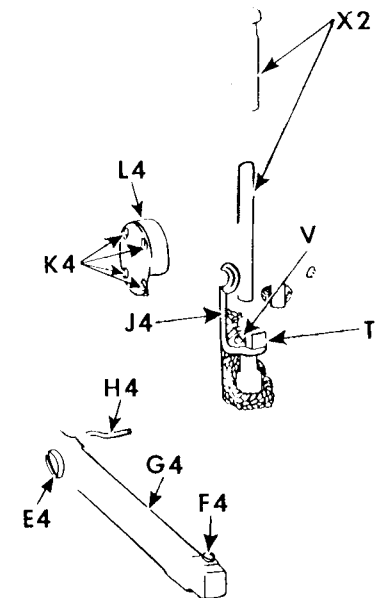

Fig. 58. Preparing to Remove Oil-Removing Wick
- Loosen presser foot lifting lever hinge screw E4, Fig. 58.
- Loosen presser foot lifting lever link stud screw F4, Fig. 58.
- Remove head end of presser foot lifting lever G4 with spring H4, Fig. 58 from the machine arm.
- Remove presser bar thumb screw X2, Fig. 58 with upper section of presser bar.
- Loosen screw V and remove guide bracket T, Fig. 58, as instructed on page 35.
- Remove presser bar lifting link J4, Fig. 58 with stud.
- Loosen four screws K4, Fig. 58 in the oil removing hinge plate and cover L4, Fig. 58.